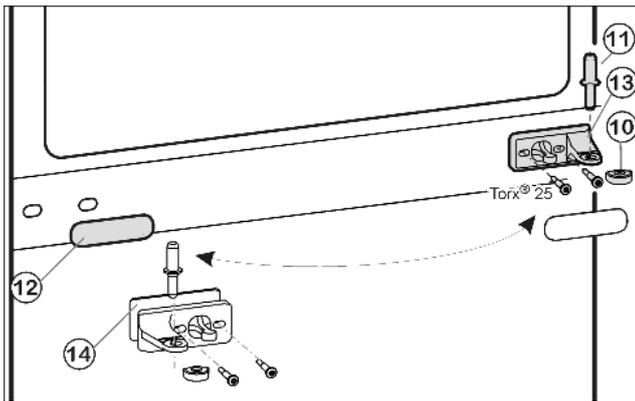
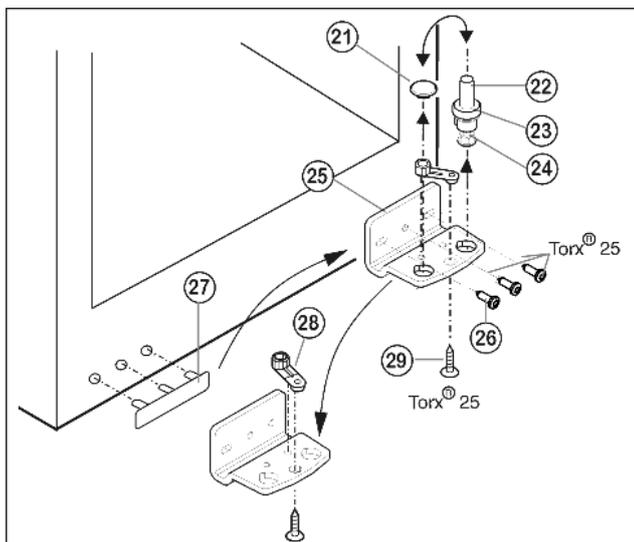

Fig. 6
Fig. 7
- ▶ Draw the middle bearing pin Fig. 6 (11) out of the turn hinge and lower door.
- ▶ Remove the plastic cap Fig. 6 (10).
- ▶ Unscrew the middle turn hinge (2x Torx® 25). Fig. 6 (13)
- ▶ Carefully detach the cover panel Fig. 6 (12).
- ▶ Turn the middle turn hinge Fig. 6 (13) with the washer Fig. 6 (14) through 180° and screw it firmly into place on the new hinge side (**with 4 Nm**).
- ▶ Turn the cover panel Fig. 6 (12) through 180° and snap it into place again on the new handle side.
- ▶ Lift out the bearing pin Fig. 7 (22) together with washer Fig. 7 (23) and foot Fig. 7 (24).
- ▶ Lift off the stopper Fig. 7 (21).
- ▶ Unscrew Fig. 7 (26) the turn hinge Fig. 7 (25).
- ▶ Unscrew Fig. 7 (29) the bearing element Fig. 7 (28), transfer it to the opposite location hole of the turn hinge and screw it firmly into place.
- ▶ Carefully lift off the cover on the handle side Fig. 7 (27) and transfer it to the opposite side.
- ▶ Screw the turn hinge Fig. 7 (25) firmly into place on the new hinge side, possibly using a cordless screwdriver (**with 4 Nm**).
- ▶ Re-insert the stopper Fig. 7 (21) into the other hole.
- ▶ Re-insert the bearing pin Fig. 7 (22) together with washer and foot. In so doing, pay attention that the locating lug points backwards
- ▶ Place the lower door from above onto the lower bearing pin Fig. 7 (22).
- ▶ Place the plastic cap Fig. 6 (10) back onto the middle turn hinge Fig. 6 (13).
- ▶ Place the middle bearing pin Fig. 6 (11) in the lower door, on the new hinge side, through the middle turn hinge Fig. 6 (13).
- ▶ Place the upper door on the middle bearing pin Fig. 6 (11).
- ▶ If necessary, align the doors to the appliance housing by way of the two oblong holes in the bottom turn hinge Fig. 7 (25) and middle turn hinge Fig. 6 (13). To do so, unscrew the middle screw in the bottom turn hinge Fig. 7 (25).